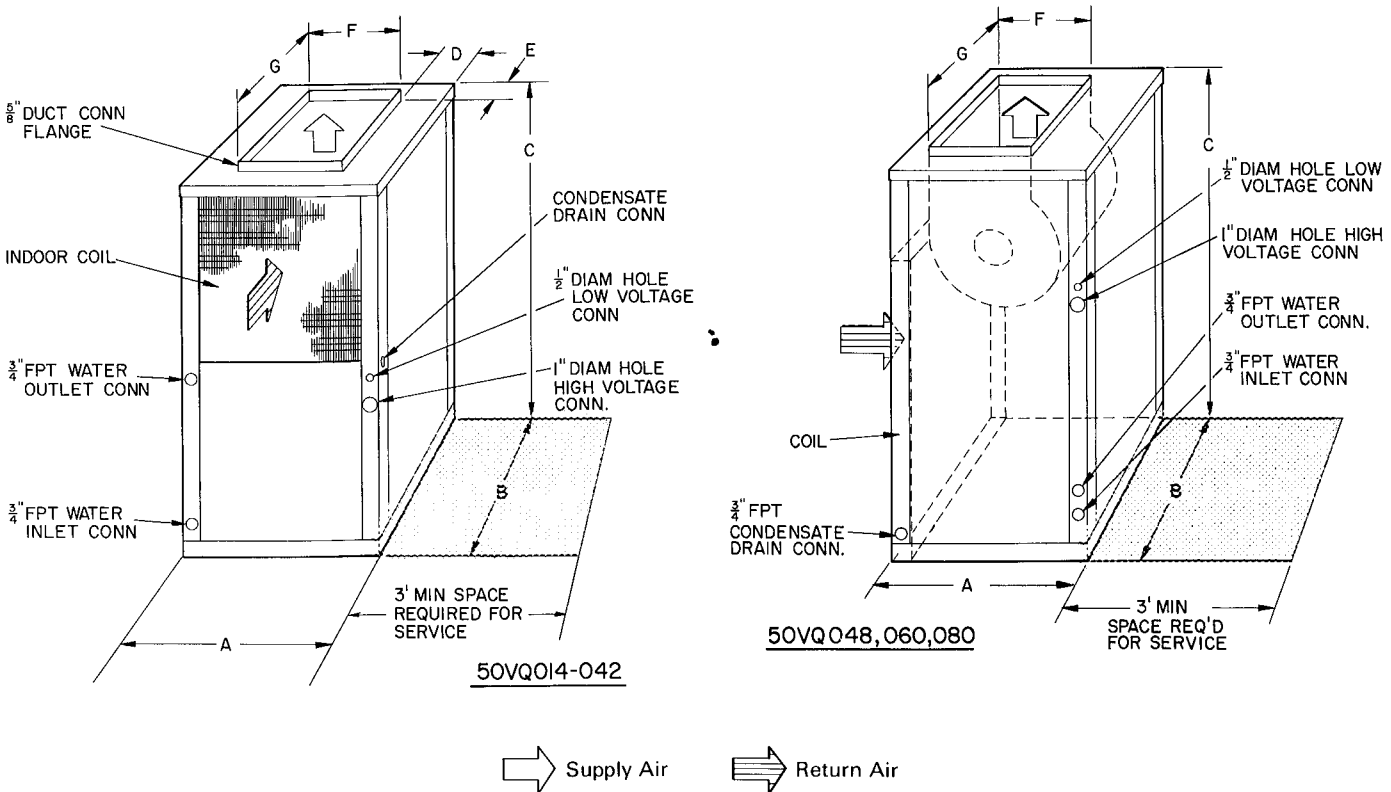
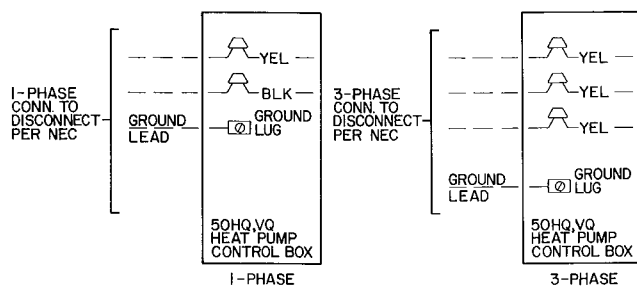
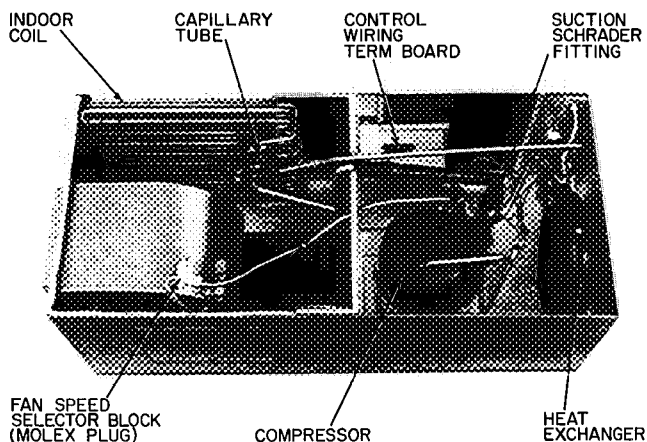

Fig. 1 — Dimensions and Connections — 50VQ
Fig. 6 — Line Power Connections
Fig. 7 — Typical Component Arrangement (50HQ014-042 Shown)
- c. Provide sufficient space for water piping, condensate drain, wiring and servicing unit. See Fig. 1. When front (external) water piping connections are used, locate unit so piping does not block front access panels. (Units installed in confined areas may have to be removed for major servicing such as compressor or fan motor replacement.)
Step 2 — Connect Supply Ductwork — Supply air duct flange is shipped inside unit. Remove flange from shipping location and install on unit supply air opening. Connect supply air ductwork to unit supply air duct connection flange. Refer to Fig. 1 and 2 and Table 1 and 2 for connection size and location. If necessary, refer to Carrier System Design Manual, Part 2, for system air duct design.
Table 1 — Installation Data — 50VQ (See Fig. 1.)
BRING POWER LEADS INTO UNIT — Extend leads from disconnect per NEC thru hole provided (Fig. 1 and 2) into line wiring splice box, Fig. 6.
CONNECT GROUND LEAD TO GROUND LUG IN SPLICE BOX for safety. Connect power wiring. See Fig. 6. Splice line power leads to yellow and black pigtails on single-phase units or yellow pigtails on 3-phase units. Use wire nuts. Tape each connection.
2. Locate Molex fan speed selector block on fan housing, Fig. 7. Selector block receptacle 1 is high fan speed, receptacle 2 is medium fan speed and receptacle 3 is low fan speed. Yellow and black fan motor power leads from control box are connected to selector block receptacle C and 1. Yellow lead is common, black lead is speed-change lead.
Power leads are brought thru 1/2-in. hole provided in unit, Fig. 1 and 2. Extend leads to control wiring terminal board located on top of control box, Fig. 7. Connect leads to terminal board as shown in Fig. 6.